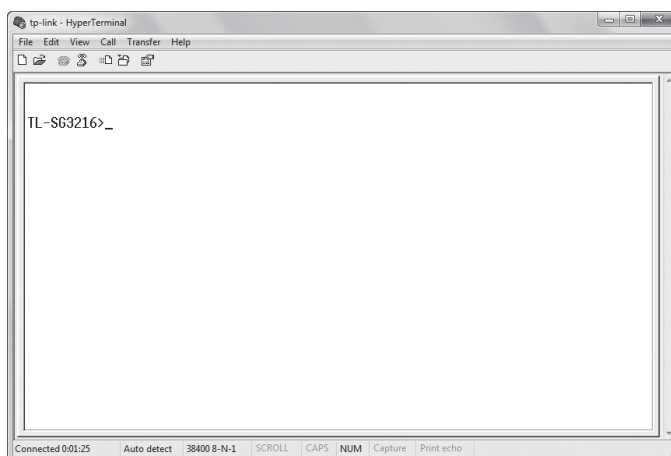

Figure 5-8 Log in the Switch
6. The DOS prompt "TL-SG3216>" will appear after pressing the Enter button as Figure 5-8 shown. It indicates that you can use the CLI now.